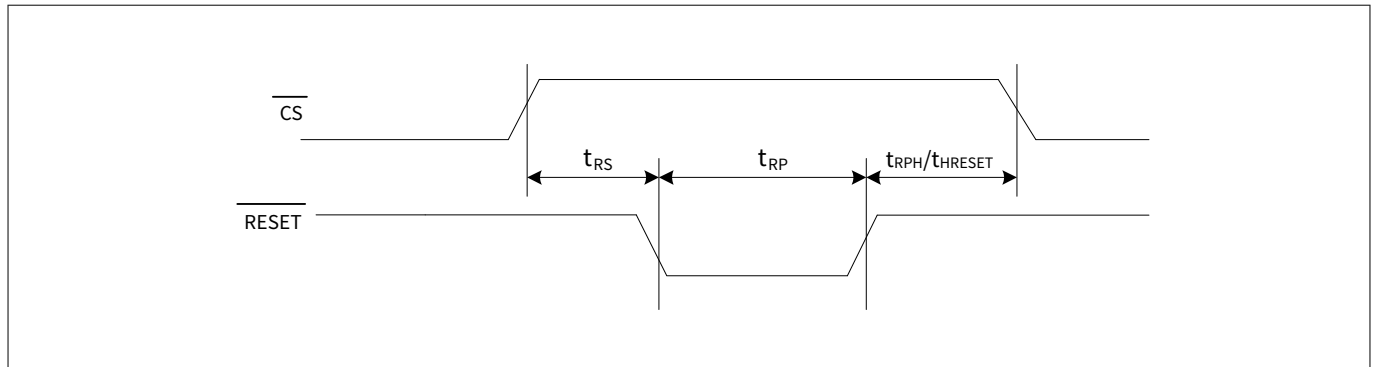
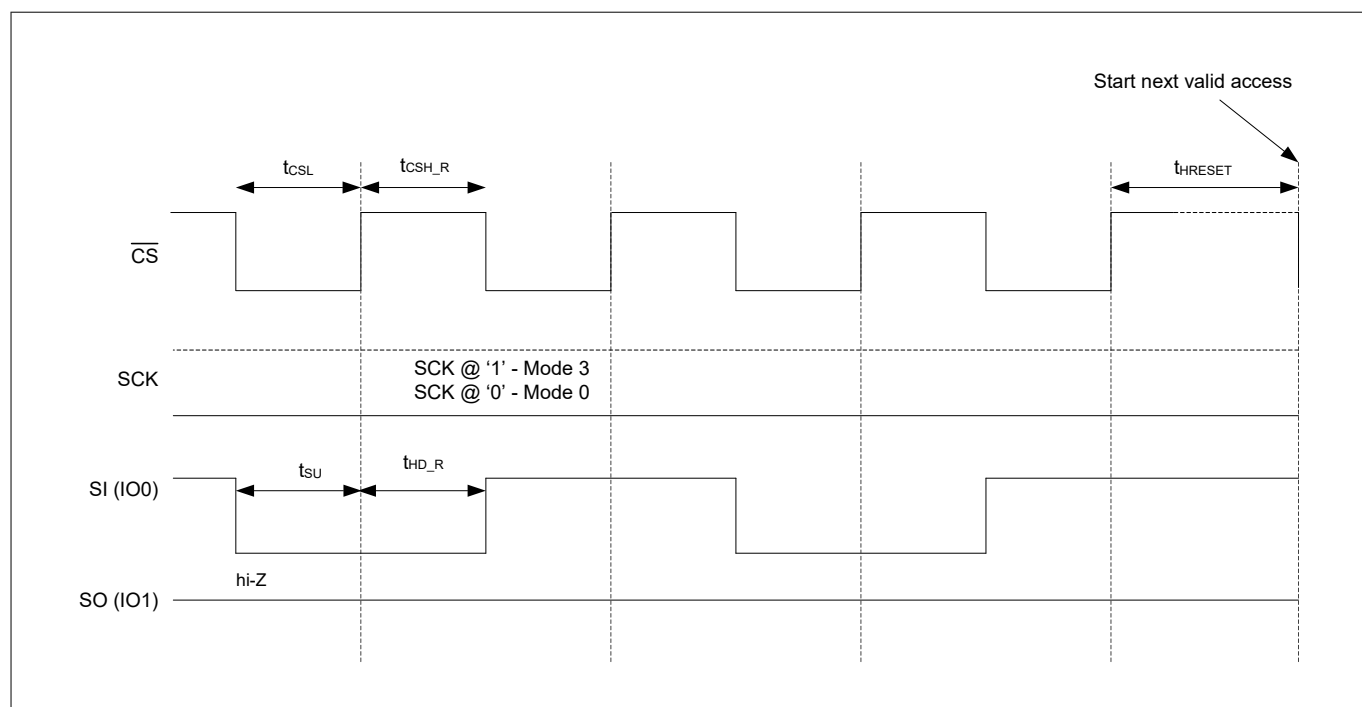

Figure 111 **RESET timing - SPI with QUAD set (CR1[1]='1') or QPI enabled (CR2[6]='1')**
Figure 113 JEDEC SPI reset
The hardware reset input ($\overline{\text{RESET}}$) is multiplexed on ($\overline{\text{RESET}}$ / I/O3) and is an active LOW signal in CY15x104QSN device. Refer to Table 21 for hardware reset ($\overline{\text{RESET}}$) pin configurations across various SPI interfaces. When $\overline{\text{RESET}}$ is pulled LOW, CY15x104QSN self initializes and brings its configuration back to the power up status. Refer to Table 59 for different registers configuration after $\overline{\text{RESET}}$ cycle. Once $\overline{\text{RESET}}$ is issued, CY15x104QSN takes $t_{\text{RPH}}/t_{\text{HRESET}}$ time from $\overline{\text{RESET}}$ rising edge to complete the reset cycle. CY15x104QSN becomes inaccessible during t_{RPH} time. Figure 111 to Figure 113 show the $\overline{\text{RESET}}$ timings in different reset mode.
- The $\overline{\text{RESET}}$ pin is multiplexed on I/O3 in the QPI mode. When using the hardware ($\overline{\text{RESET}}$) in QPI mode, the CR2 [5] bit must be set to '1' to enable to use I/O3 as $\overline{\text{RESET}}$ input when $\overline{\text{CS}}$ is HIGH. Figure 111 shows the $\overline{\text{RESET}}$ / (I/O3) timing in QPI mode
Refer to Figure 113 for timing details.